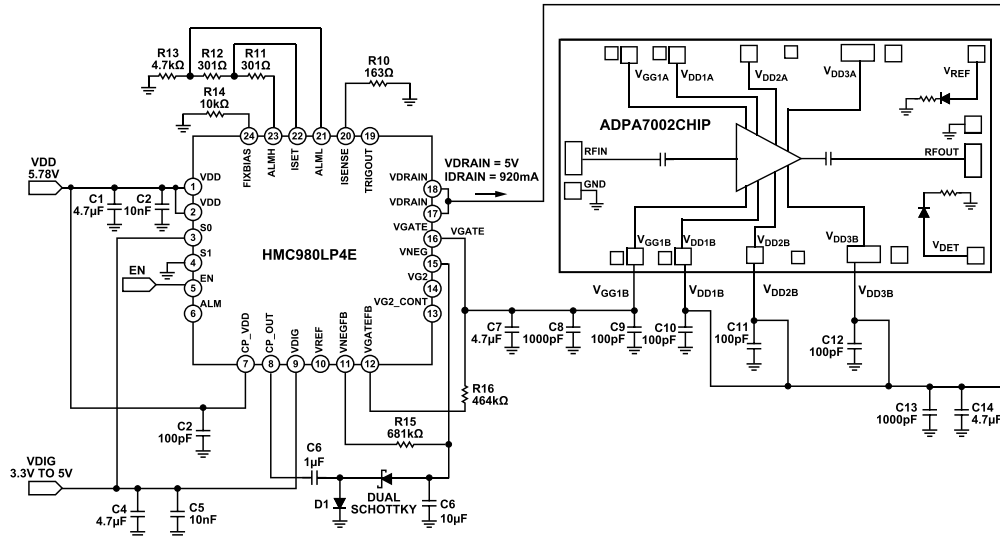
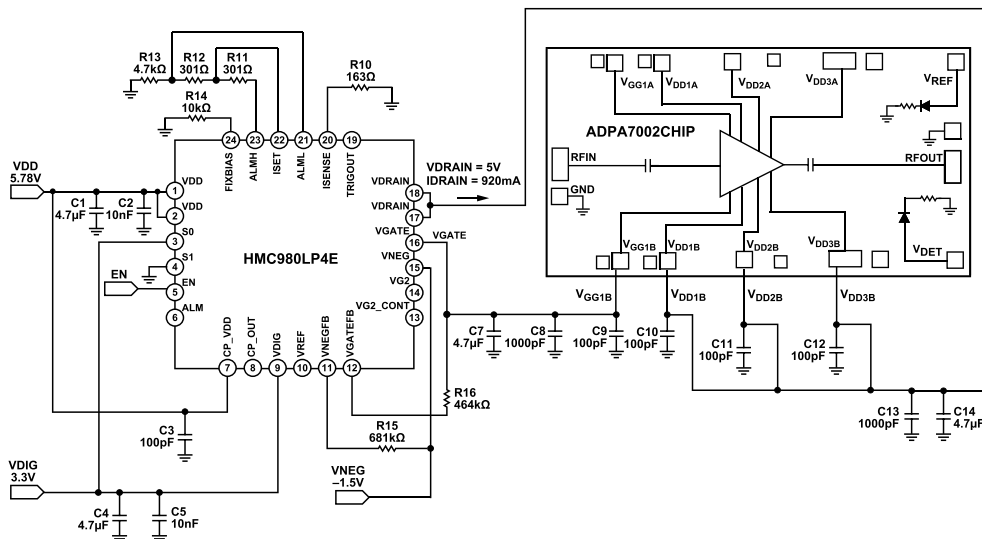

Figure 59. Application Circuit Using the HMC980LP4E with the ADPA7002CHIP
Figure 60. Application Circuit Using the HMC980LP4E with the ADPA7002CHIP as an External Negative Voltage Source
Figure 59 shows a schematic of an application circuit of the HMC980LP4E used with the ADPA7002CHIP biased at 920 mA. In this circuit, the negative gate control voltage is generated by HMC980LP4E. Figure 60 shows an application circuit using an external negative supply.
When using the ADPA7002CHIP with the HMC980LP4E, limit the minimum voltages for VNEG and VGATE to  $-1.5$  V to keep the voltages within the absolute maximum ratings (AMR) limit for the ADPA7002CHIP  $V_{GGx}$  pad. This is accomplished by setting the R15 resistor and the R16 resistor to the values shown in Figure 59 and Figure 60. Refer to the AN-1363 application note for more information and calculations for R15 and R16.
1. Set VDIG, the voltage supply input (Pin 9) for the HMC980LP4E digital circuit (see Figure 60) to 3.3 V.
2. Set S0, the digital control pin (Pin 3) that sets the internal field effect transistor (FET) and the internal HMC980LP4E resistor (RDS) resistance (see Figure 60) to 3.3 V.